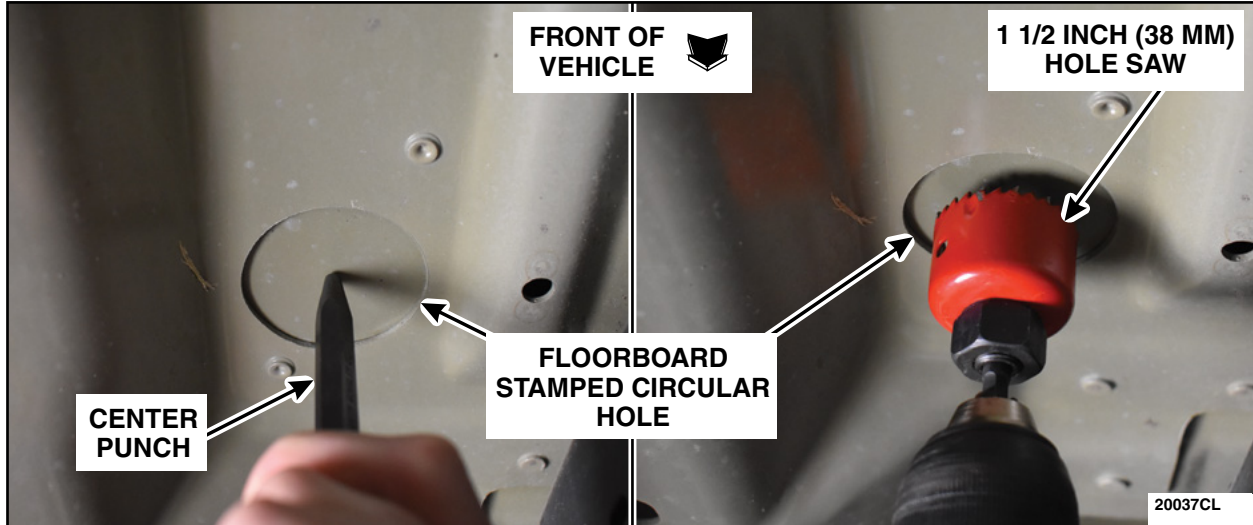

FIGURE 94
85. Locate the floorboard stamped circular hole on the under side of the front passenger floorboard. Using a Center Punch, mark the center of the circular hole. Using a 1-1/2 inch (38 mm) Bi-Metal Hole Saw with arbor and pilot bit, drill through the floorboard towards the inside of the vehicle. De-burr the hole. See Figure 94.